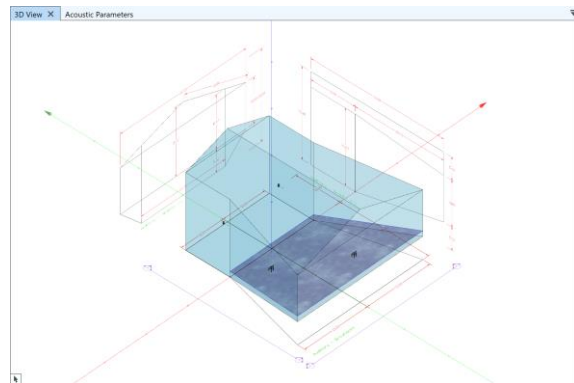

Figure 4.11 Parallel Perspective.
- In PARALLEL mode, an orthographic projection is used instead of a central projection. In this mode, objects that are farther away will not appear smaller than objects closer to the viewer (Figure 4.11). This option corresponds to a viewing location at a large distance. It is often useful, especially for drawing or verifying models without perspective distortion.